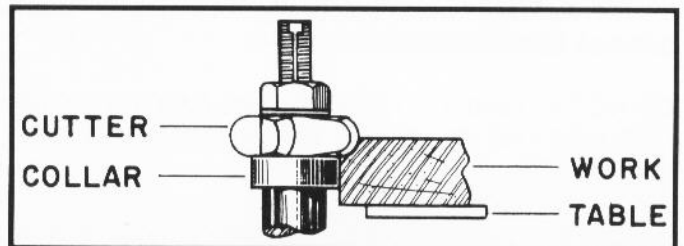

Fig. 34
2. When the collar is used below the cutter, as shown in Fig. 34, the progress of the cut can be observed at all times. However, any accidental lifting of the work will gouge the wood and ruin the workpiece.